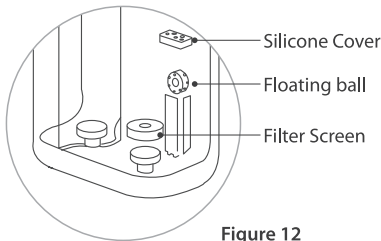

Figure 12
- (1) Pull out the silicone cover of the floating ball and then take out the floating ball. **(Figure 12)**
- (2) Pull out the filter screen in the same direction, as shown in the figure. **(Figure 12)**